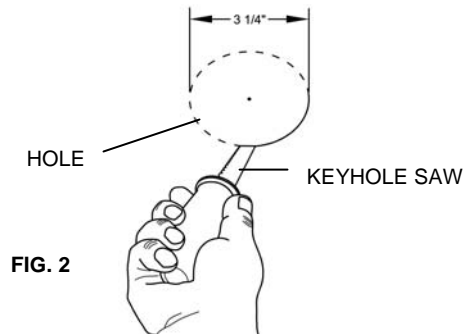

FIG. 2
- Cut a 3 1/4" hole into the ceiling after choosing the appropriate location. A template is provided to assist in making the hole. (Fig. 2)